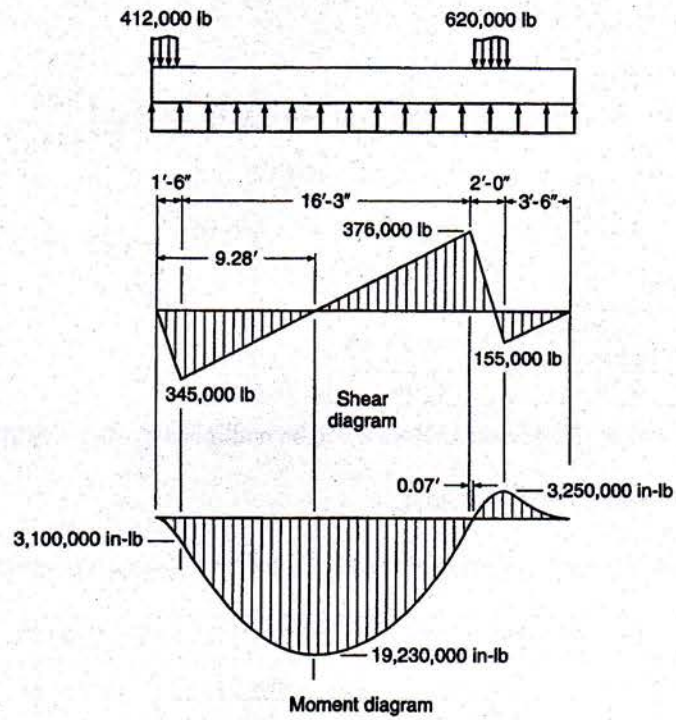

Figure 7
- (b) An exterior 24 x 18 inch column with $DL = 170$ kips, $LL = 130$ kips, and an interior 24 x 24 inch column with $DL = 250$ kips, $LL = 200$ kips are to be supported on a combined rectangular footing whose outer end cannot protrude beyond the outer face of the exterior column. The center to center distance of column is 18 ft and the allowable bearing pressure of the soil is 6 ksf. The bottom of the footing is 6 ft below grade and a surcharge of 100 psf is specified on the surface. Determine the thickness of the footing using the shear and bending moment given in Figure 7 for $f'_c = 3$ ksi, $f_y = 40$ ksi. 10